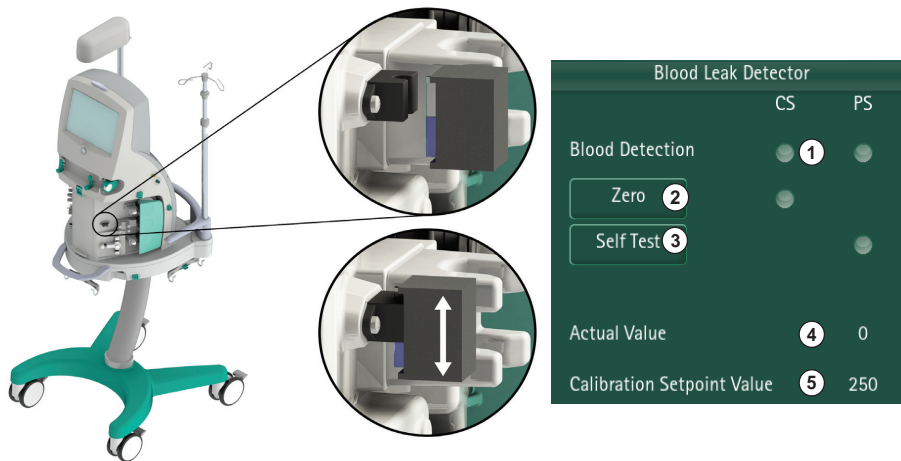

Fig. 1-11 TSM Test BLD test tool
1. Insert the transparent glass of the BLD test tool into the blood leak detector and press *Zero* button ② (see  "Fig. 1-11 TSM Test BLD test tool" (21)). Wait until the CS LED next to the *Zero* button is activated and the *Zero* button is released.
- ↪ *Actual Value* ④ is 0 (permissible tolerance +/- 3).
- ↪ *Actual Value* ④ is lower than the *Calibration Setpoint Value* ⑤.
- ↪ *Blood Detection* control system CS and protective system PS LEDs ① are not activated.
- ↪ *Actual Value* ④ increases.
- ↪ *Actual Value* ④ is higher than the *Calibration Setpoint Value* ⑤. For BLD test tool 1, the *Actual Value* ④ is between 490-540. For BLD test tool 2, the *Actual Value* ④ is between 630 - 700.
- ↪ *Blood Detection* CS and PS LEDs ① are activated.